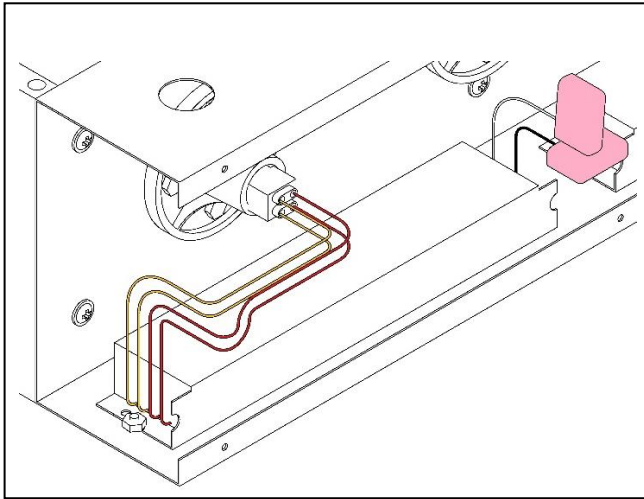

Figure 14
5.) Disconnect lamp plug and power attached to defective ballast. Take note of which terminals power the defective ballast so the new one can be wired correctly. See Figures 14 and 15.
6.) Use an 11/32" socket wrench to remove the (2) nuts holding the ballast into place.
8.) Reinsert and tighten the (2) nuts that hold the ballast in place with an 11/32" socket wrench. See Figures 14 and 15.
9.) Reconnect the lamp plugs and reconnect ballast wires into push-in connectors. See Figures 14 and 15.